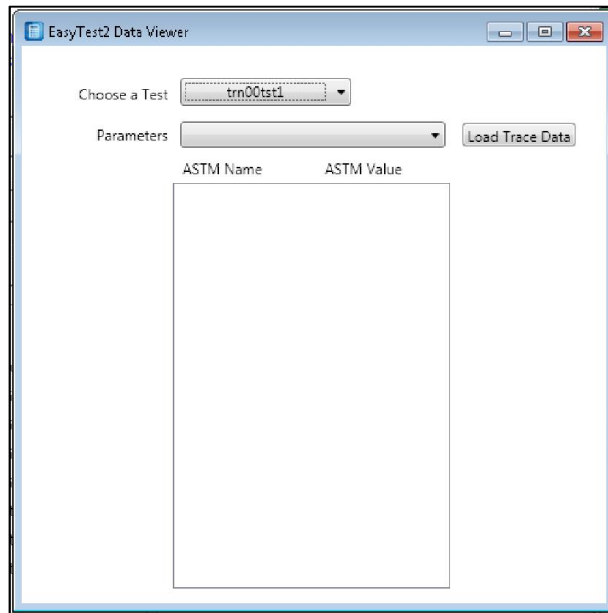

Figure 2 - ET2 DataViewer Pop-Up Menu
- 17.18.1. Choose the current test from the **Choose a Test** drop-down menu and hit the **Load Trace Data** button (Figure 2):